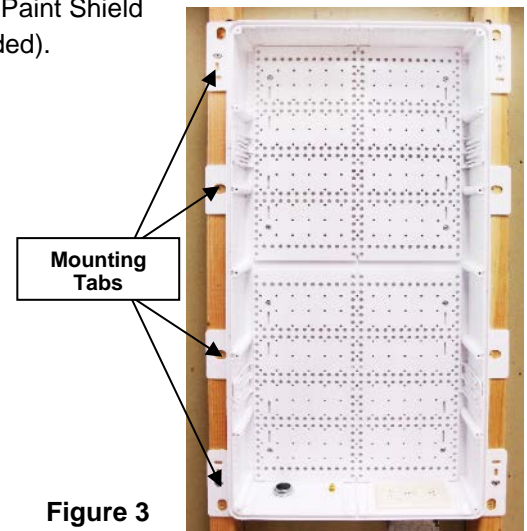

Figure 3
6. Secure base unit to the wall studs with #8 x 3/4" lg. flat head screws (included) through the mounting tabs on the enclosure top and bottom corners. (Figure 3)